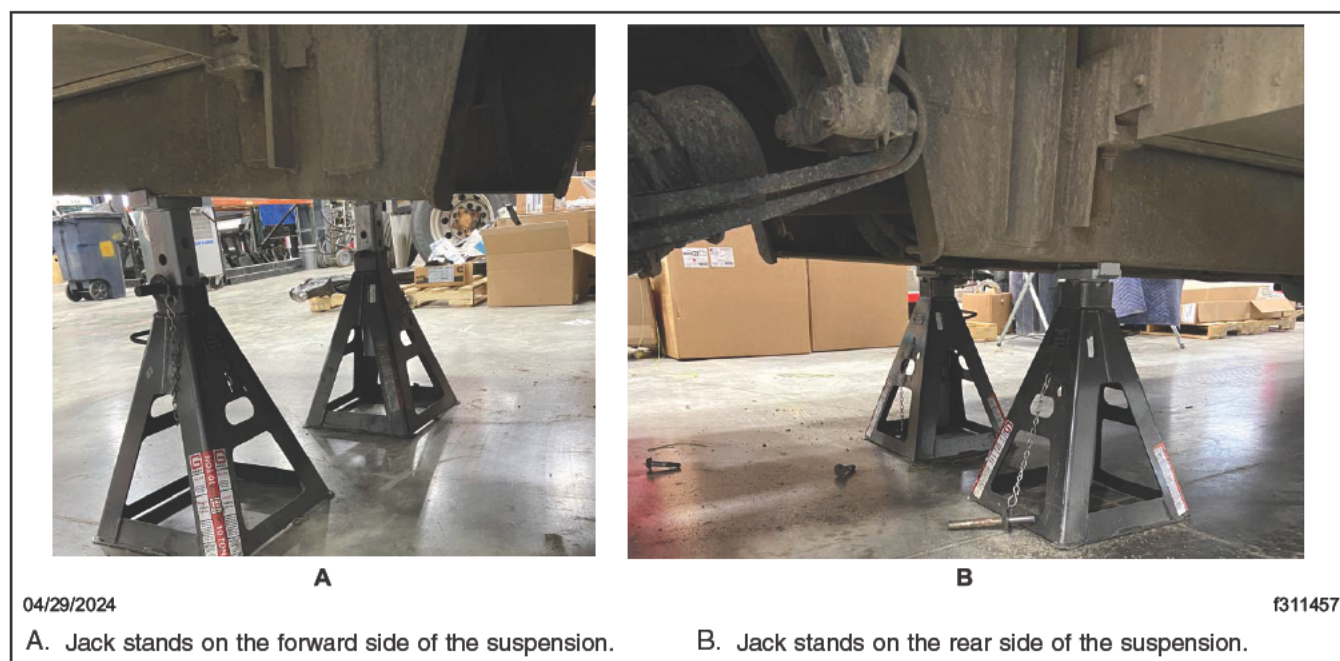

Fig. 1, Jack Stands on the Forward and Rear of the Suspension
3. Raise the vehicle and support the forward and rear of the suspension with appropriate jack stands. For instructions to raise and lower the vehicle, see **Group 00** of the *Business Class M2 Workshop Manual*. See Fig. 1.